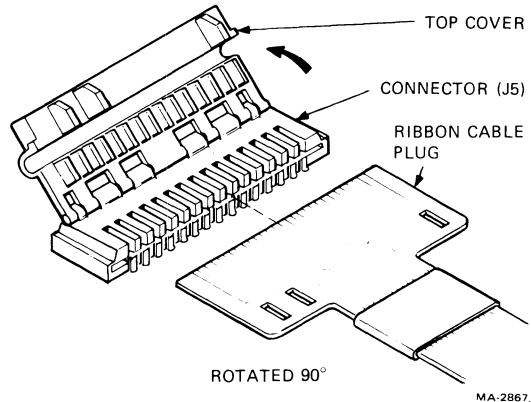

Figure 7-10 Printhead Ribbon Cable Removal
3. Remove the logic board safety cover to gain access to the printhead cable. Gently disconnect the printhead ribbon cable from J5 on the logic board by lifting the top cover off the plug (Figure 7-10).
**The ribbon cable is keyed and must be reinstalled correctly to ensure proper operation (Figure 7-10).**